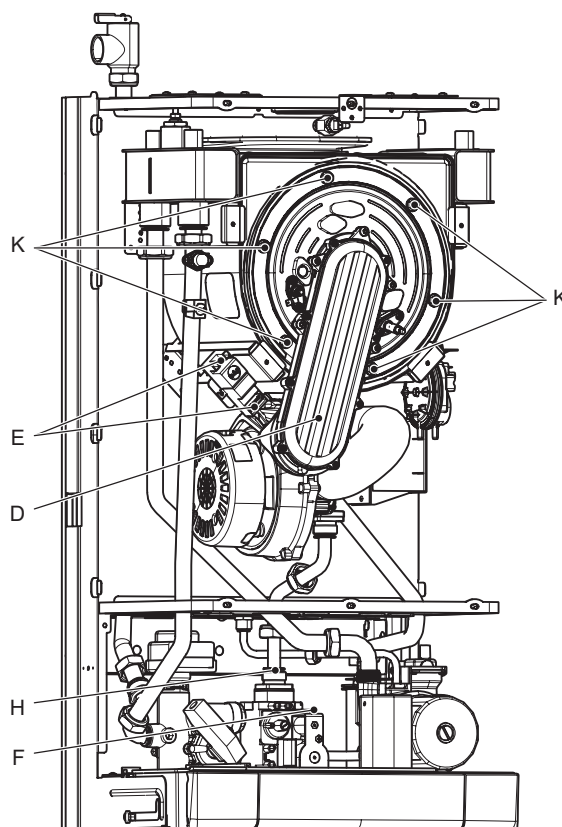

Figure 17.6
To remove the burner-fan group D (Fig. 17.6):
- Disconnect the connectors of the ignition electrodes E and detection electrode F (Fig. 17.6).
- Unscrew the gas connector H (Fig. 17.6).
- Remove the nuts K (Fig. 17.6) and the burner-fan group D.